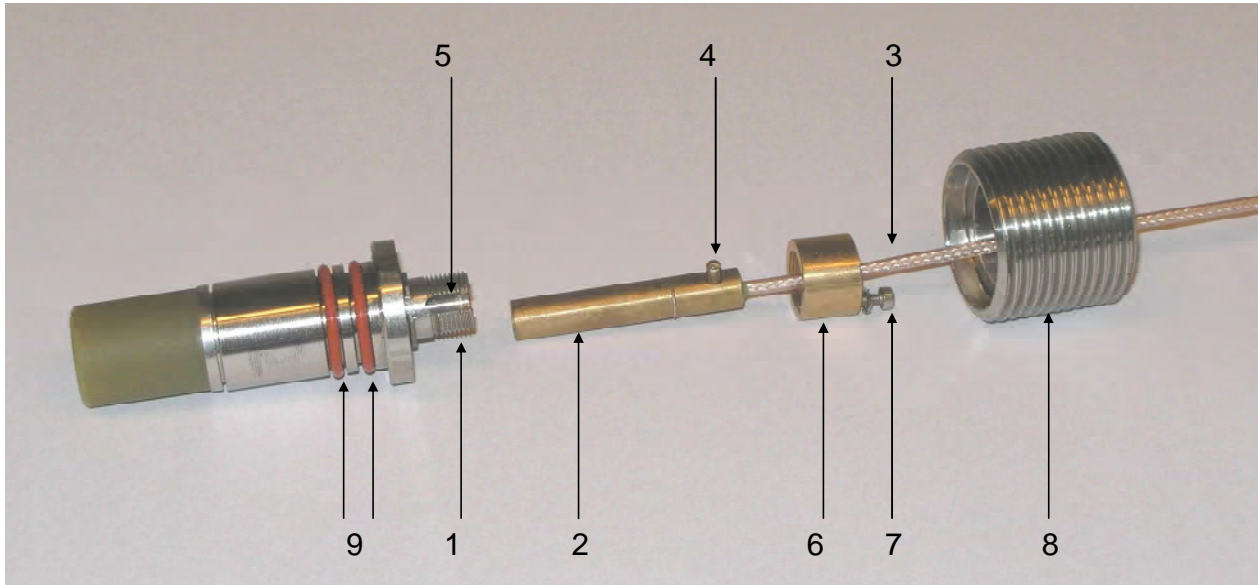

Figure 2-7: sensor & connector assembly
The transducers have an Ex-d connector (socket, ref 1. Figure 2-7) that connects to a to an Ex d connector (plug, ref 2.) which terminates a coaxial wire (ref 3.)